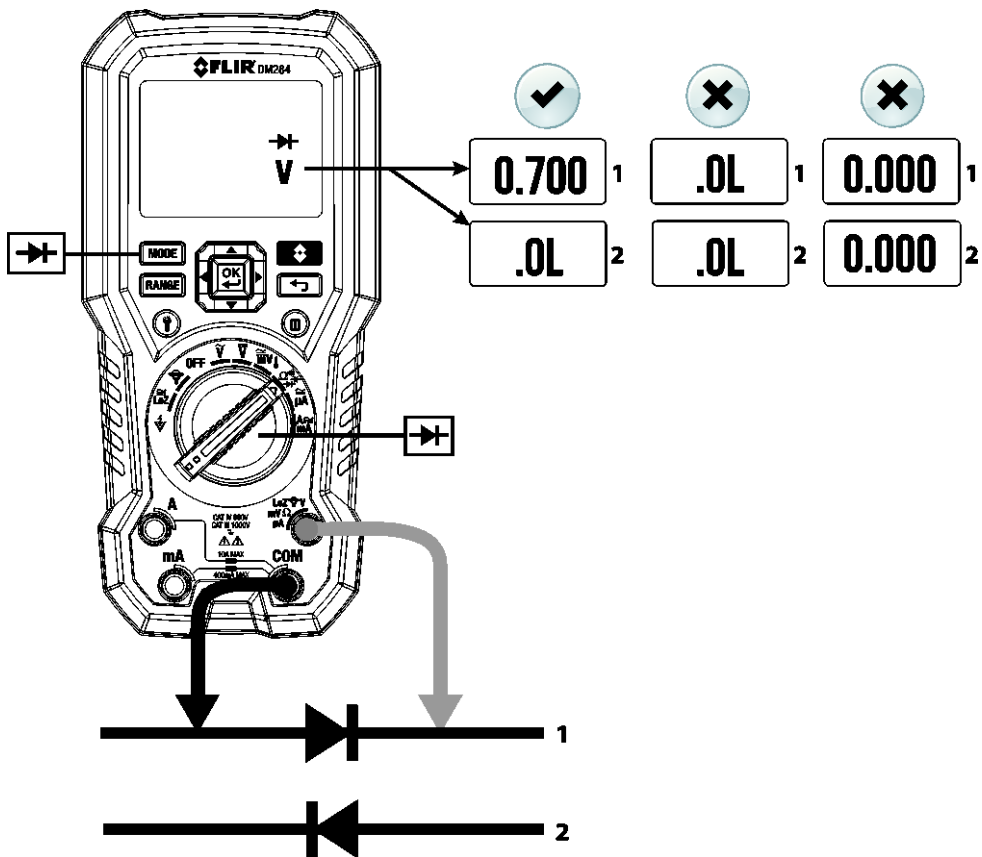

Fig. 7-4 Classic Diode Test
4. Touch the tips of the probe across the diode or semiconductor junction under test in one polarity (direction) and then in the opposite polarity as shown in **Fig. 7-4**.